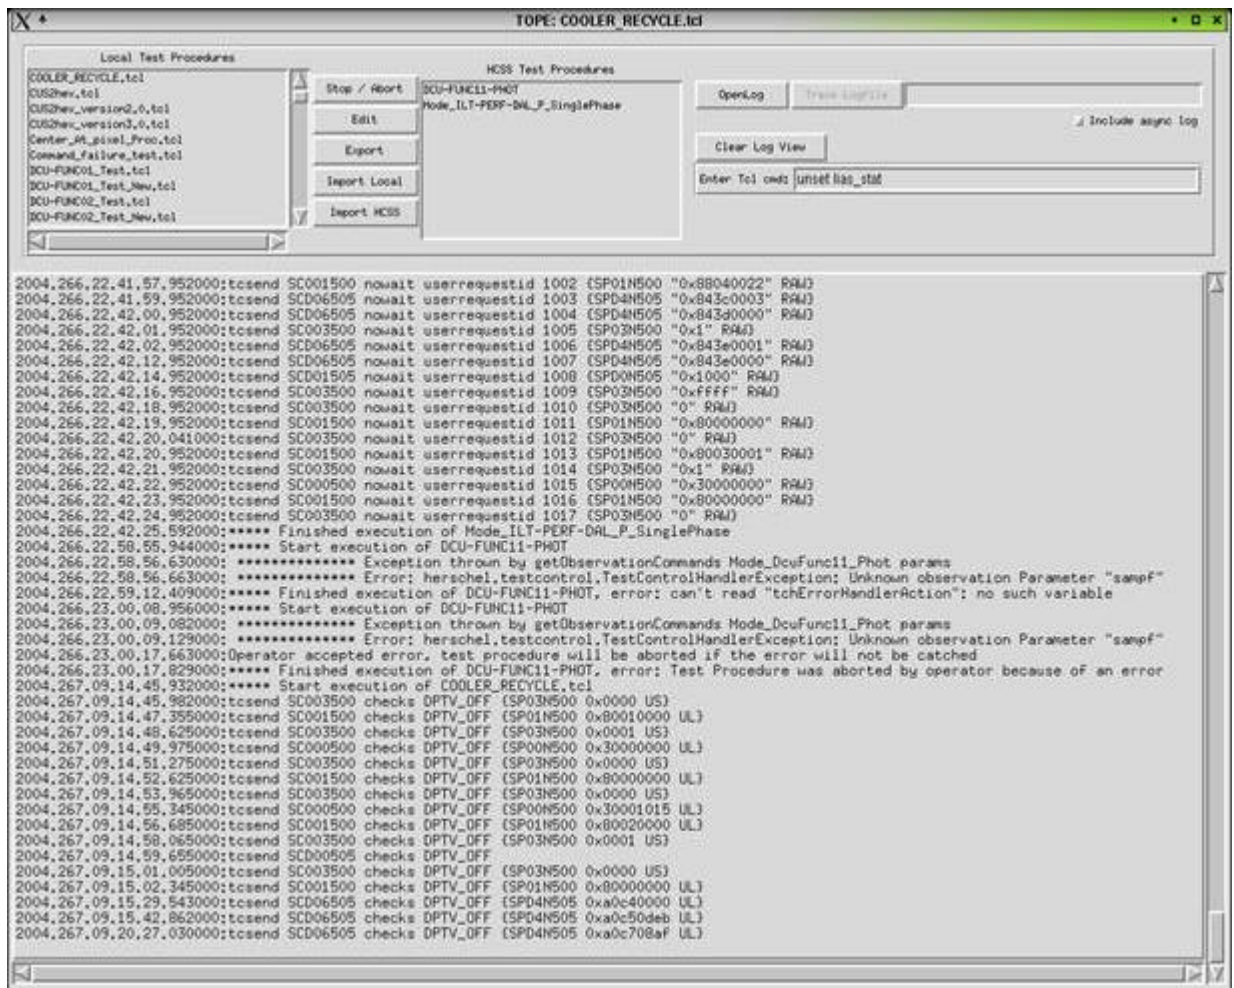

Figure 3: TOPE window
1. In TOPE window (**figure 3**) from SCOS select **COOLER_RECYCLE.tcl** procedure from the top left sub window by **single** clicking on the procedure name.